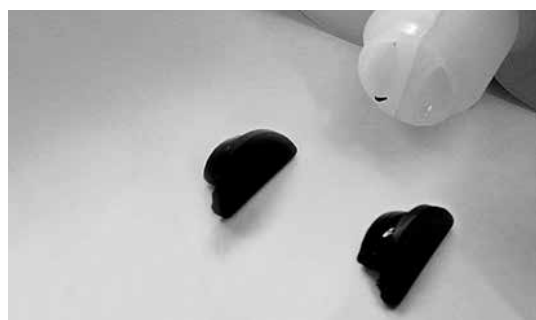

Figure 2: Plugs for TG-75 cartridge.
3. Phase the cartridge: use a pneumatic gun with a maximum pressure of 0.70 MPa (100 psi), turn the regulator knob counterclockwise to the stop. Remove the "D" shaped plugs from the cartridge - see Figure 2.